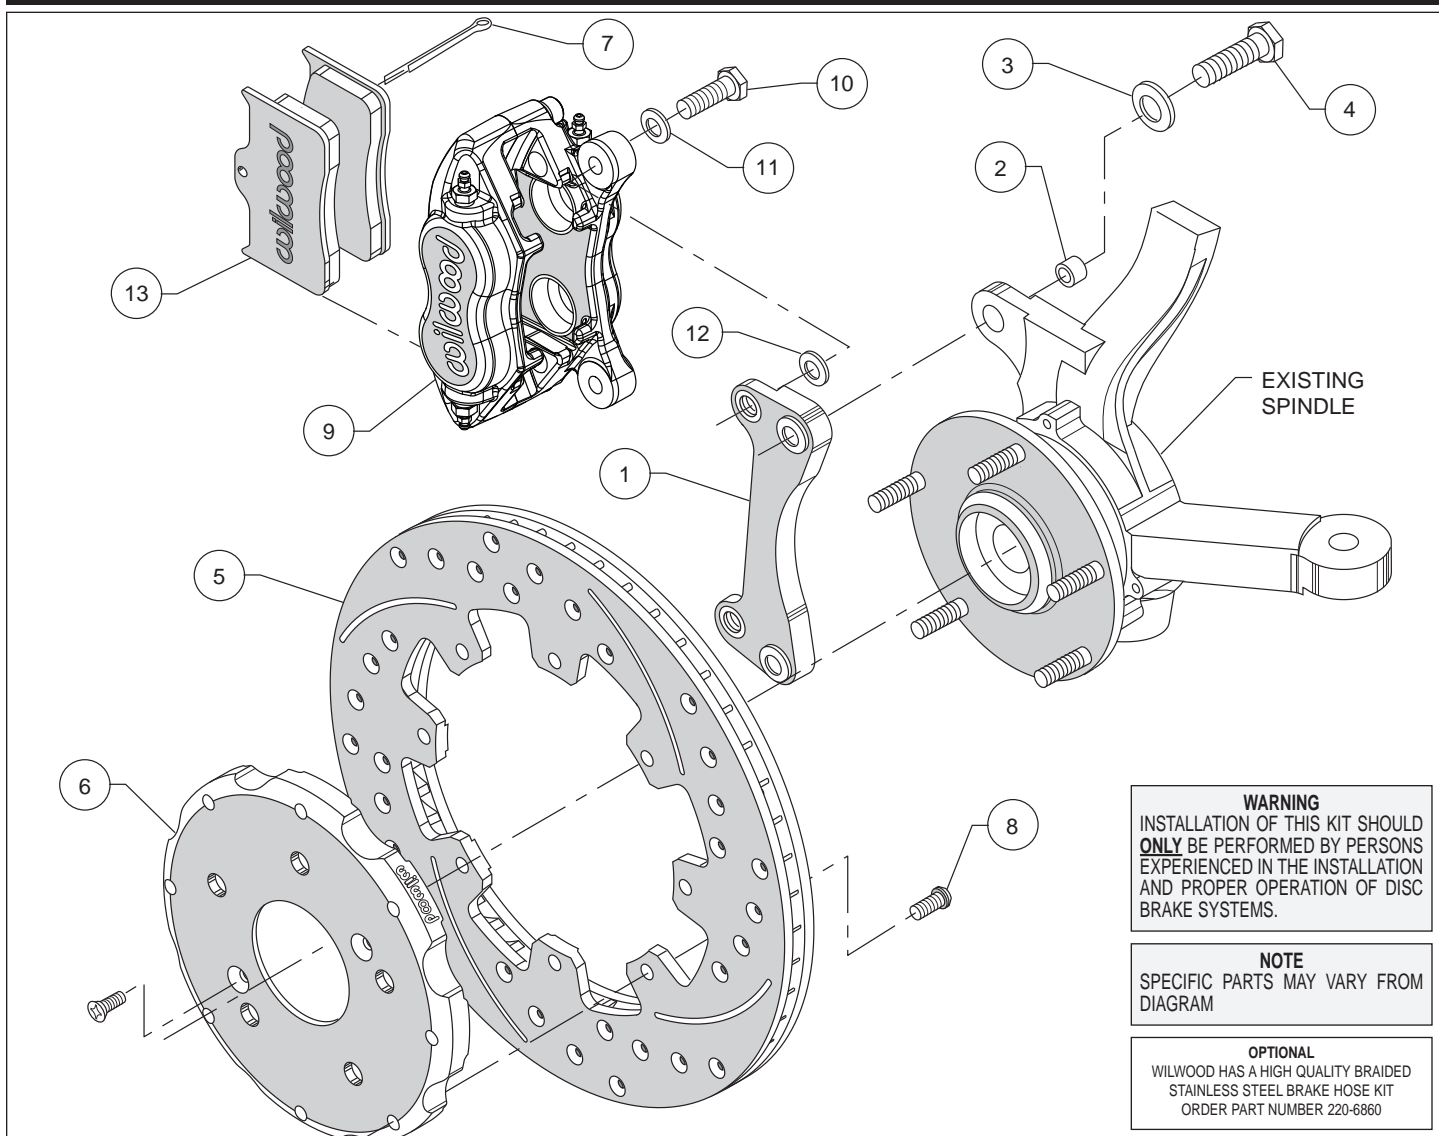
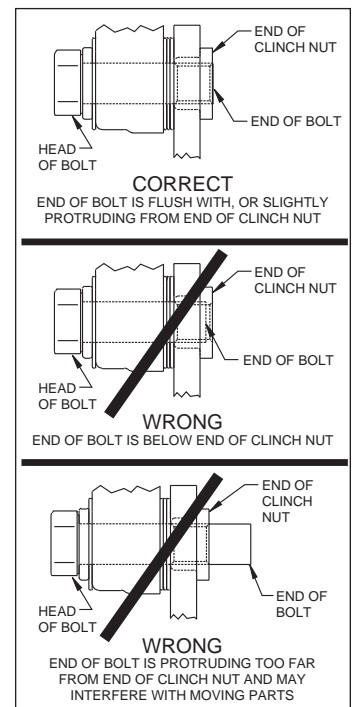

Figure 1. Typical Installation Configuration, Left Hand Application Shown
Figure 3. Clinch Nut Engagement Diagram
**Assembly Instructions** (numbers in parenthesis refer to the parts list and Figure 1 on the preceding pages): **CAUTION:** All mounting bolts must fully engage clinch nuts. Be sure to check that all bolts are either flush or protruding through flanged side of clinch nut after shimming, Figure 3.
- Insert one sleeve (2) into each hole of the spindle “ears”, Figure 1. Orient the caliper mount bracket (1) as shown in Figure 1, and install using bolts (4) and washers (3). Ensure that the flanged heads of the clinch nuts in the bracket are facing outboard, Figure 1. Temporarily tighten the mounting bolts. **NOTE:** The bracket must fit squarely against the mount bosses on the upright. Inspect for interference from casting irregularities, machining ridges, burrs, etc. Remove bolts one at a time, apply red *Loctite*® 271 to the threads and torque to 60 ft-lb.
- Orient the rotor (5) and the hat (6) as shown in Figure 1 and Photo 1. Attach rotor to hat using bolts (8). Using an alternating sequence, apply red *Loctite*® 271 to the threads, and torque to 25 ft-lbs.
- **NOTE:** Please reference the caution statement at the beginning of the assembly instructions. Mount the caliper (9) onto the caliper mounting bracket (1) using bolts (10) and washers (11), as shown in Figure 1. Initially place one .035" thick shim (12) on each bolt between the caliper and the bracket, Photo 2. Temporarily tighten the mounting bolts and view the rotor (5) through the top opening of the caliper. The rotor should be centered in the caliper, Photo 3. If not, adjust by adding or subtracting shims between the bracket and the caliper. Always use the same amount of shims on each of the two mounting bolts. **NOTE:** The end of each bolt must be flush with or slightly protruding from the head of the clinch nut, as shown in Figure 3. If necessary place spare shims between washer (11) and caliper mounting ear to achieve the proper clinch nut engagement. Once the caliper alignment and clinch nut engagement are correct, remove the bolts one at a time, apply red *Loctite*® 271 to bolt threads, and torque to 40 ft-lb.